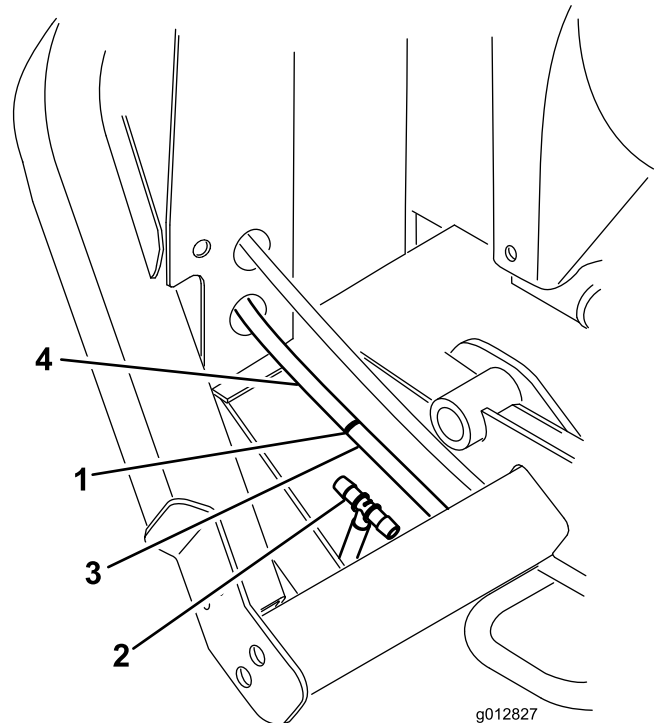

Figure 17
- B. Measure approximately 12.7 cm (5 inches) from the radiator frame and cut the oil-cooler-return hose (Figure 17).